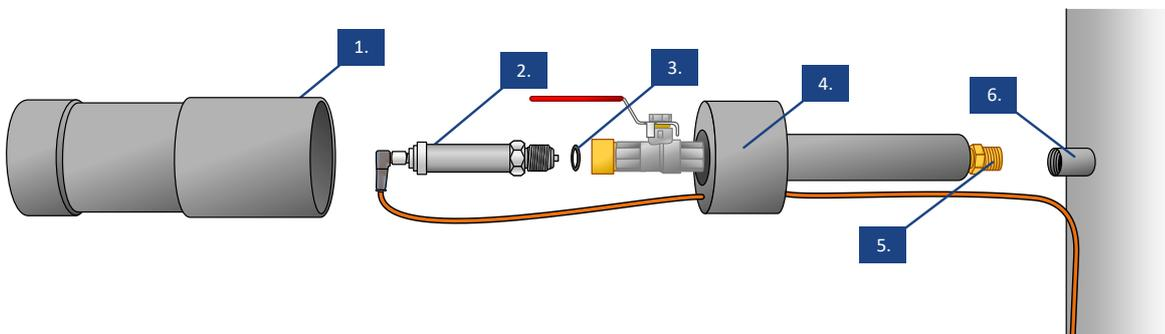
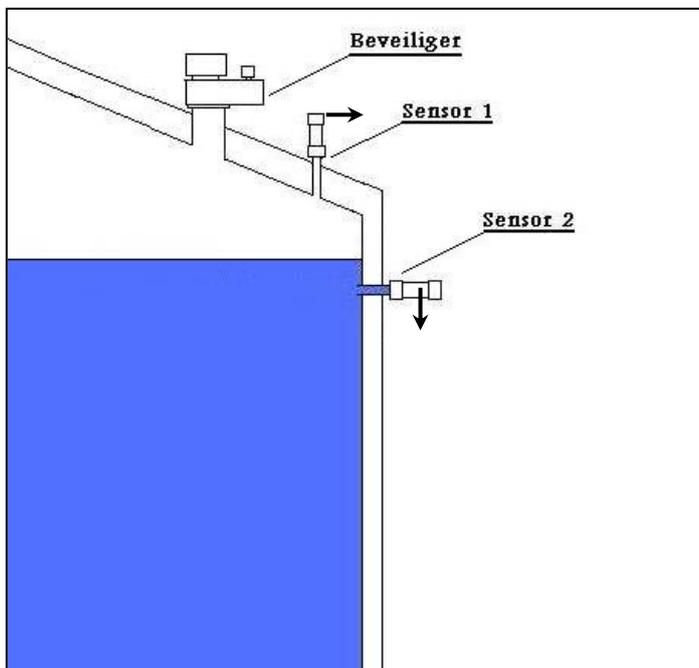

Figure 33. Sensor housing
Figure 34. Mounting of the sensors
1. Is the sensor placed in a suitable sensor housing? A correct sensor housing consists of a base, insulation foam and a cover, just as shown as in Figure 33.
2. Is the sensor housing cover (Figure 33 no. 1) correctly mounted? In the cap of the sensor housing are two little holes, these holes provide the drainage of moisture. The holes in the cap of sensor at the side of tank, need to be pointed downwards (Figure 34).
5. Slide the cover back onto the base of the sensor housing (Figure 33 no. 4) and make sure that the insulation foam won't block the condensation holes in the cap. Make these holes accessible if necessary and place new insulation foam in the cap if the foam is lost or damaged.